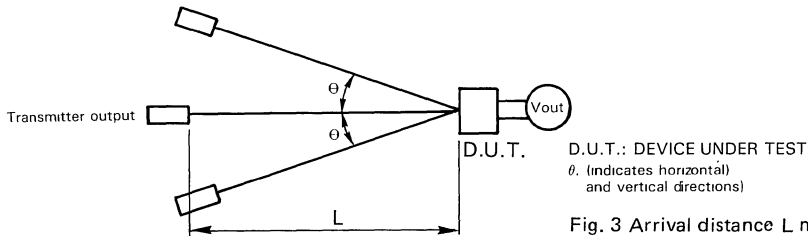

Fig. 3 Arrival distance L measuring condition
B. Arrival distance measuring condition as shown in Fig. 3